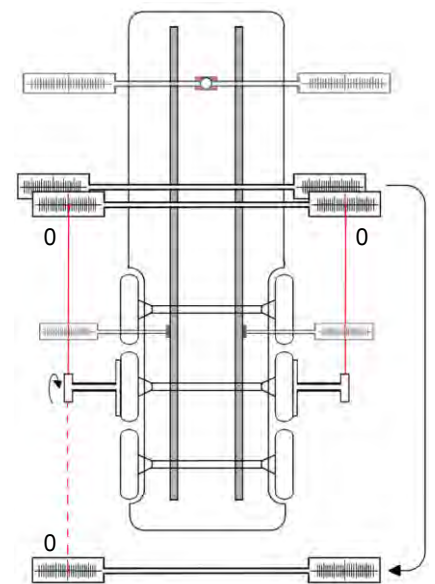

Fig. 8
- Next place a scale on the other marking of the axle being measured (Fig. 8).